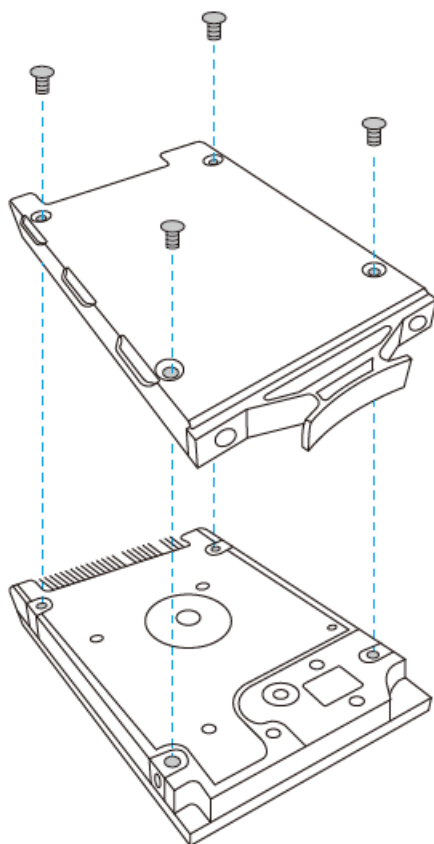

Figure 3-3: HDD Tray Installation
Step 3: Attach the drive to the tray and secure the four screws in the back of the drive tray (**Figure 3-3**).